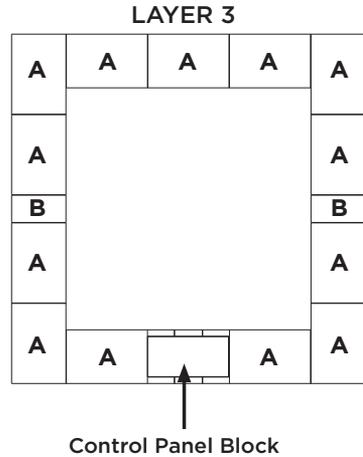

Figure C.3
- This layer will contain the control panel block (*included in kit*). Follow diagram on figure C.3